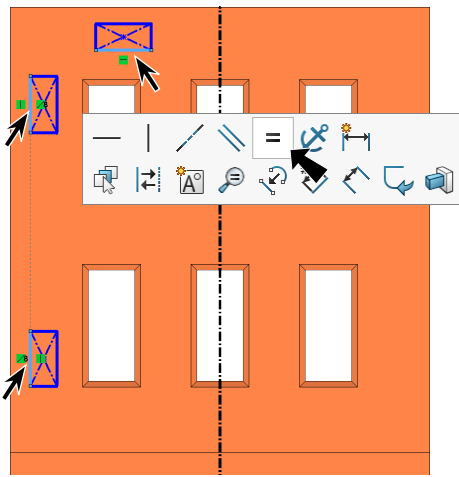

Fig. 59
Step 10. **Ctrl** click a long side line of each rectangle to select three lines. Release **Ctrl** key and click **Make Equal**  on the context toolbar, **Fig. 59**.